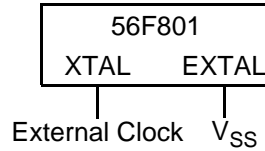

Figure 11. Connecting an External Clock Signal
The recommended method of connecting an external clock is given in **Figure 11**. The external clock source is connected to XTAL and the EXTAL pin is grounded.
1. See Figure 11 for details on using the recommended connection of an external clock driver.